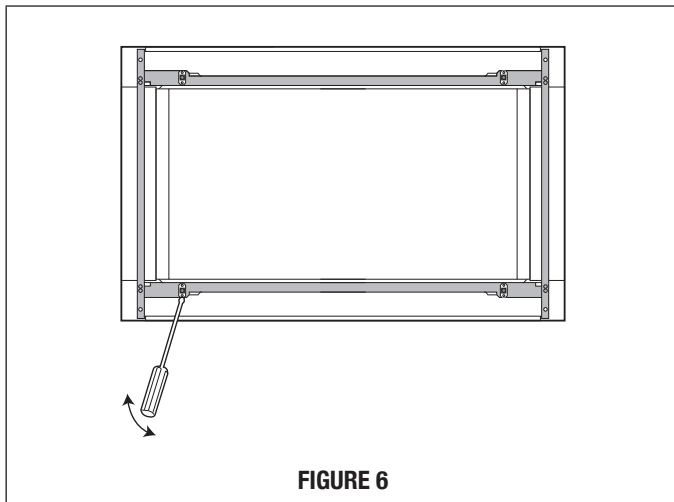

FIGURE 6
3. **DISASSEMBLY:** The FRONT FRAME and BACK FRAME come pre-assembled with ball studs engaged in the receivers. Separate the FRONT FRAME from the BACK FRAME. Place the assembly facedown onto a protected surface. At the location of the ball stud, insert a flathead screwdriver between the FRONT FRAME and the BACK FRAME and gently pry up to disengage the ball stud from the receiver. Repeat for each corner. See Figure 6.